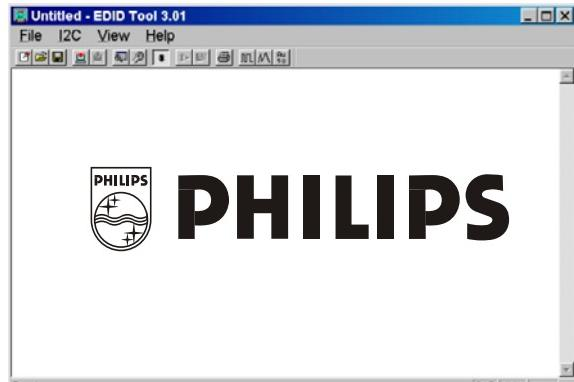
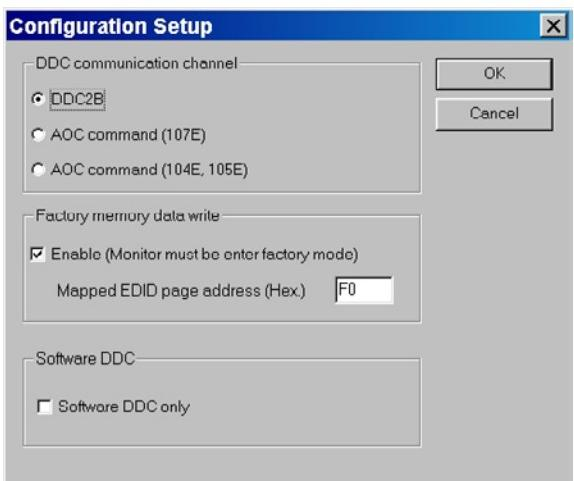

Fig. 11
Fig. 12
- 1-2 Click  icon as shown in Fig. 11 from the tool bar to bring up the "Configuration Setup" windows as shown in Fig. 12.
Select "**Enable**" & fill out "**F0**" for Mapped EDID page address as shown in Fig. 12.